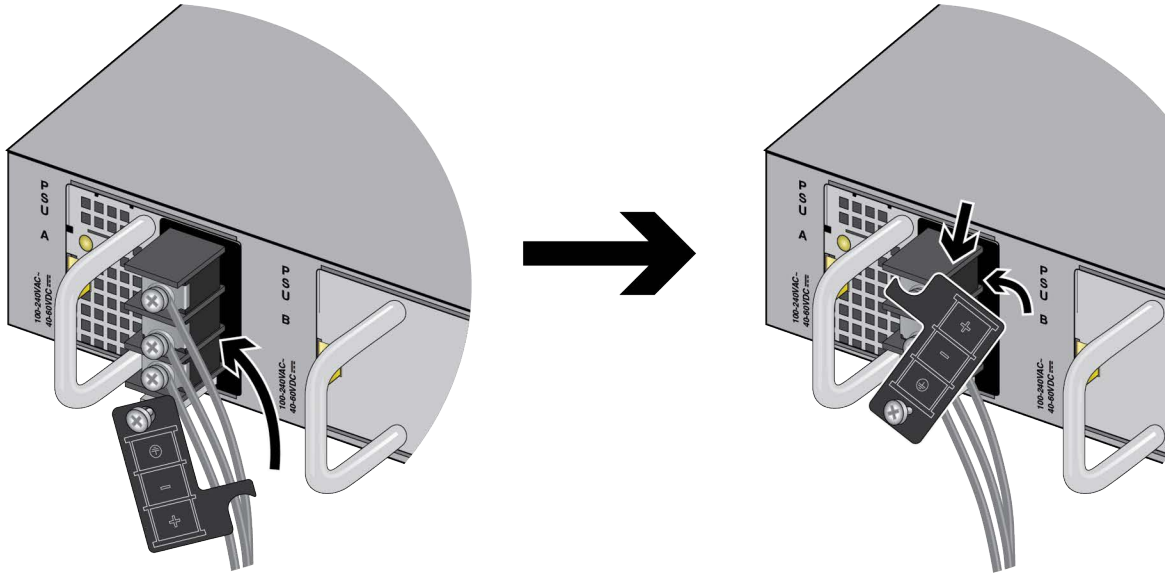

Figure 74. Placing the Cover Panel
8. Place the cover panel back to cover the connectors. Refer to Figure 74.